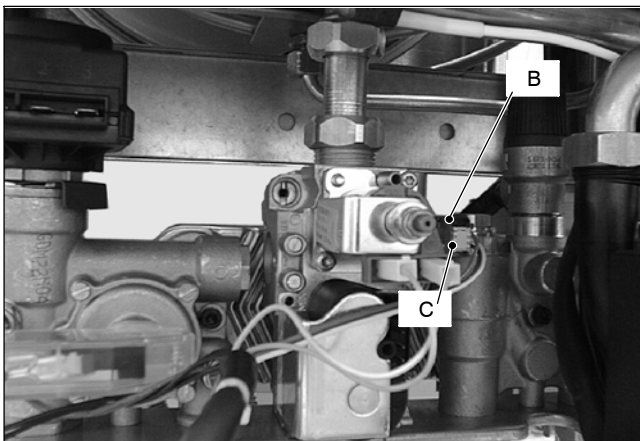

Fig. 67
- 2 Switch on the boiler and open a d.h.w. tap. The lamp *B* (Fig. 67) placed on the sensor body is switched on when the flow rate reaches about 2,5 litres/min'.
- 2 Disconnect the connector *C* (Fig. 67) and remove the sensor by delicately levering downwards with a screwdriver.